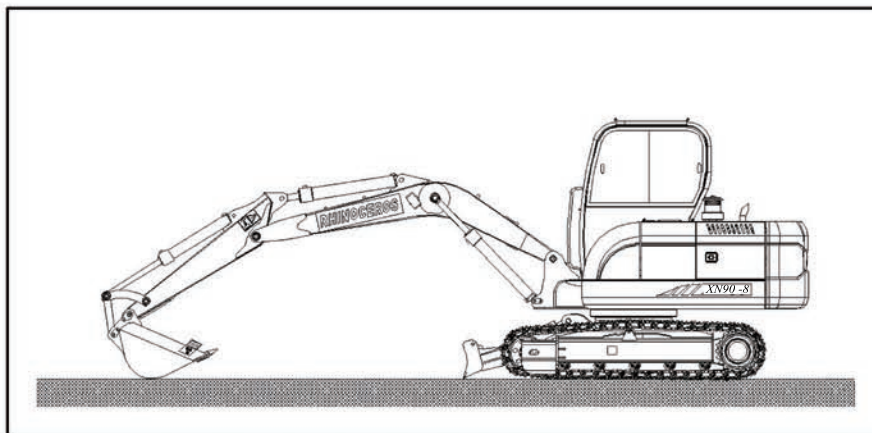

Fig 3-71
1. Park the excavator on a solid even ground, lower the bucket and dozer plate. (Fig 3-71)